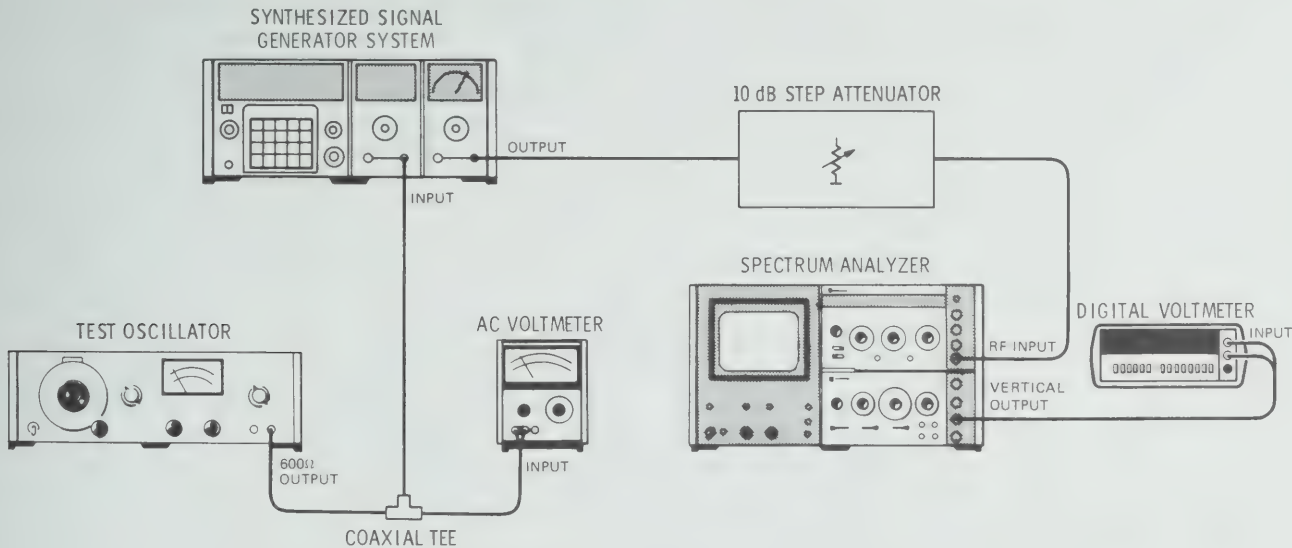

Figure 5-3. Amplitude Modulation Input Circuit Adjustment Test Setup
2. Connect the equipment as shown in Figure 5-3.